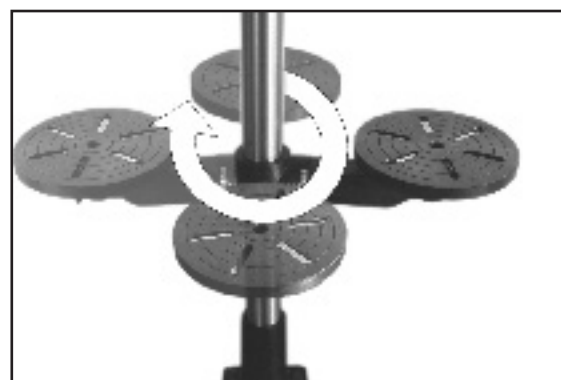

Figure 20
**NOTE:** The table can rotate 360° by loosening the table lock handle and turning to the desired position. (Fig. 20)